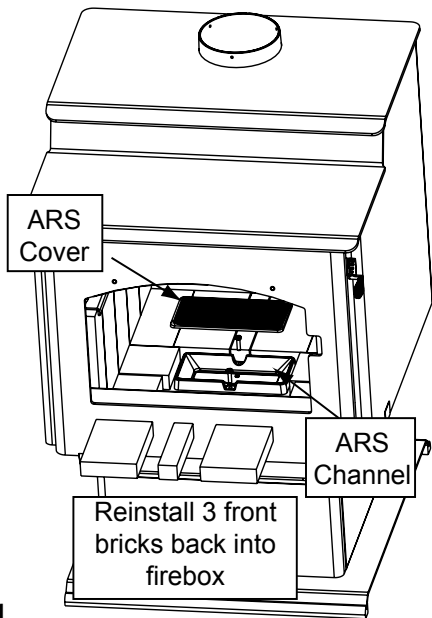

Figure 18.1
5. Replace front 3 bricks that were removed in step 1 (Figure 18.1).
7. Install ARS access cover inside of ARS Channel that is located inside the firebox (Figure 18.1).